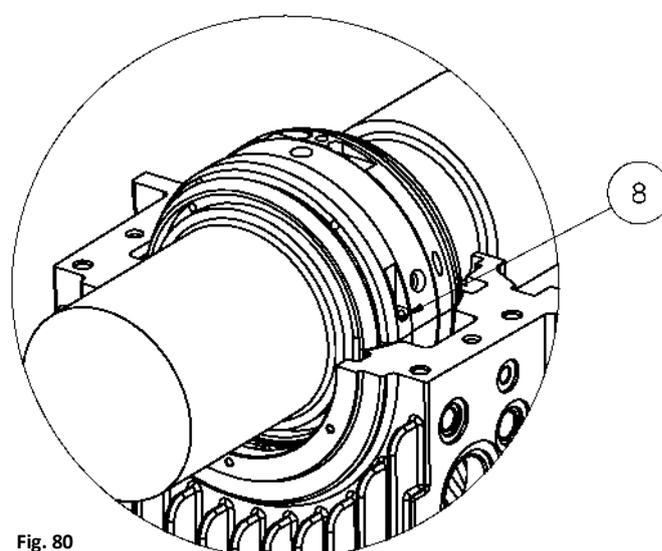

Fig. 80
- Apply an oil film to both the shaft seat and the upper part of the bearing shell (84) (use the same oil as for the operation of the bearing).
- Place the upper part of the shell (84) on the shaft (Fig. 80).